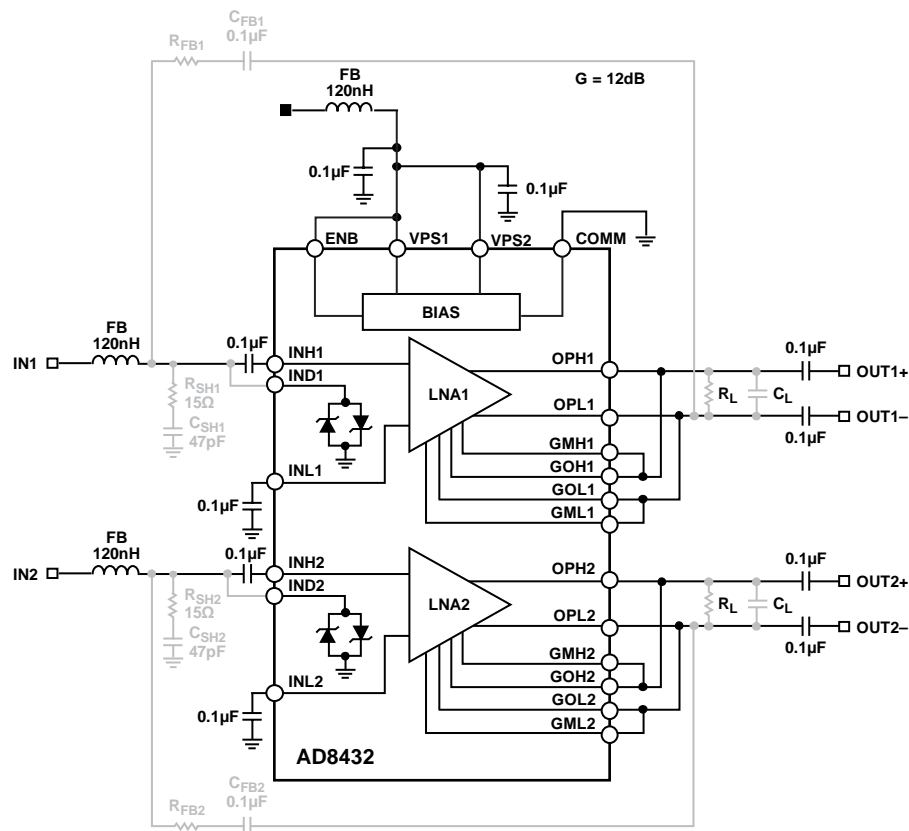

Figure 69. Typical AD8432 Setup,  $G = 12.04$  dB
At the lowest gain (12.04 dB), the gain response exhibits some peaking at higher frequencies. A resistor-capacitor shunt network (RC) at the input (see  $R_{SHx}$  and  $C_{SHx}$  in Figure 69) is recommended to reduce gain peaking and enhance stability at higher frequencies.